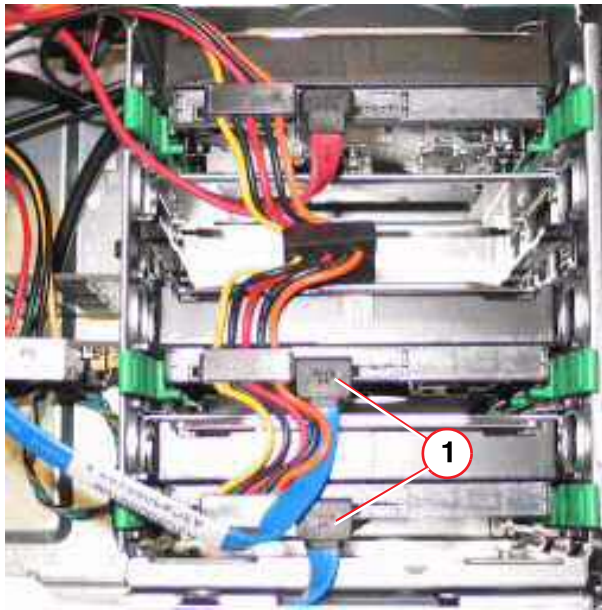

Fig. 44: Drive cable
5. Disconnect the data and power supply cables to the hard disk drive (Fig. 44 / p. 69).
**Hard drive 3 must be connected to SATA-port 2 and hard drive 4 to SATA-port 3 (1/Fig. 44 / p. 69).**
⇒ **Make sure that the drives are correctly adapted (1/Fig. 44 / p. 69) when reconnecting the drives.**